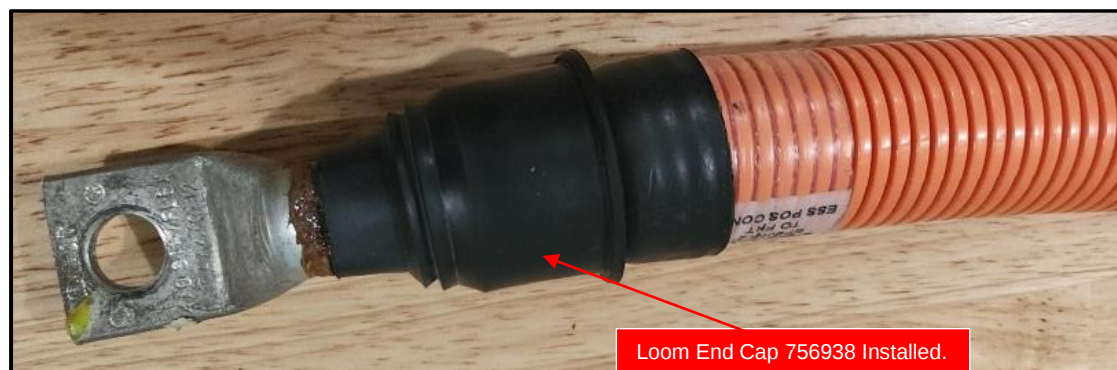

Figure 4 - Cable loom end cap installation location reference.
11. Locate the ring terminal on each cable and remove the loom end cap 31.5mm P/N-756938 and the heat shrink. Clean the ring terminal and cable sheathing with alcohol 134336 and a dry lint free cloth. See Figure 4.
12. Apply several coats of Scotchkote 1035894 on the portion where heat shrink was removed until the void is full. Allow applied Scotchkote to dry (wait for 12 to 15 minutes between each applied coat). See Figure 4.